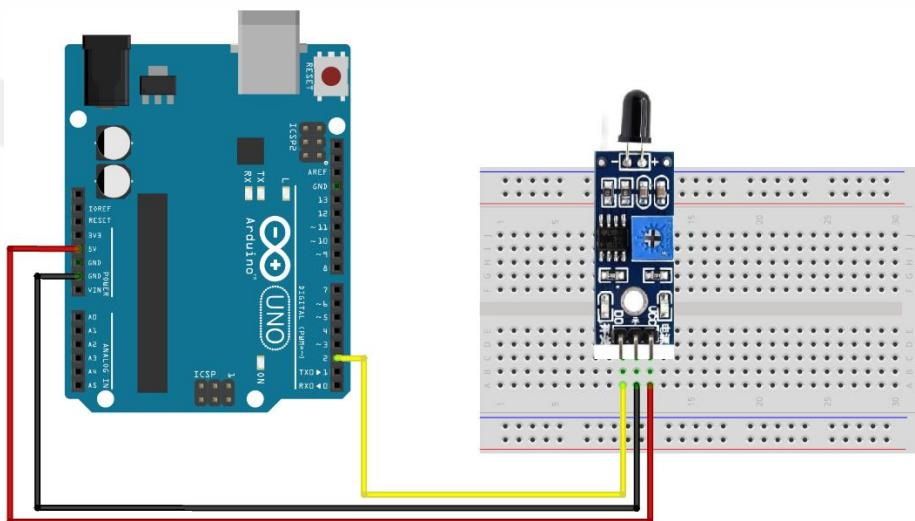

Figure 4.1 – Wiring diagram for Flame Detection project
- Connect the flame sensor as shown in the **Wiring Diagram (Figure 4.1)**.